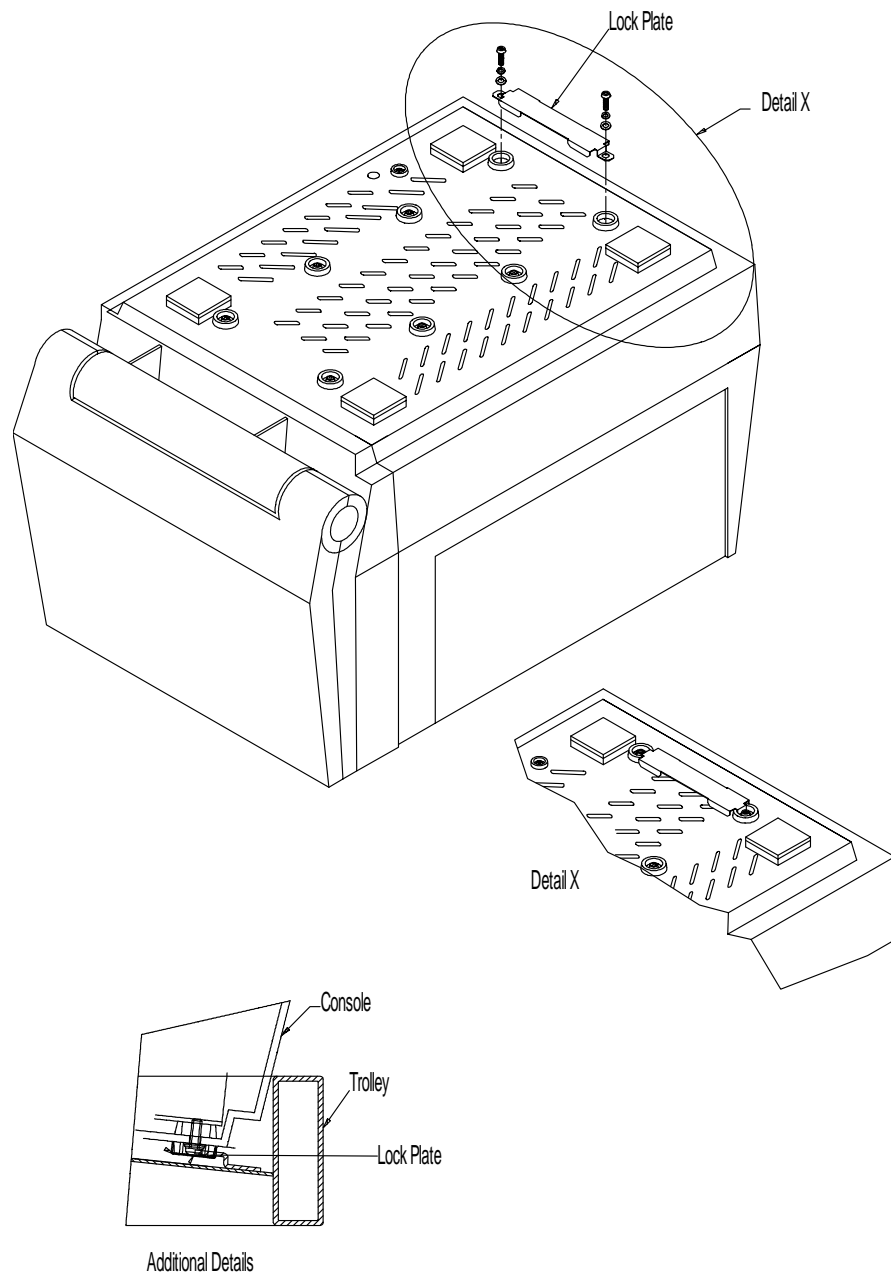

Figure 3-21 Installation of Trolley
- 3.) Remove two M4X10 screws from the base of LOGIQ™ α 100/LOGIQ™ 100 PRO and fix lock plate. Refer Figure 3-21
- 4.) Place the unit with lock plate fixed on Trolley, ensure that lock plate gets into the projection on the trolley. Refer Figure 3-21